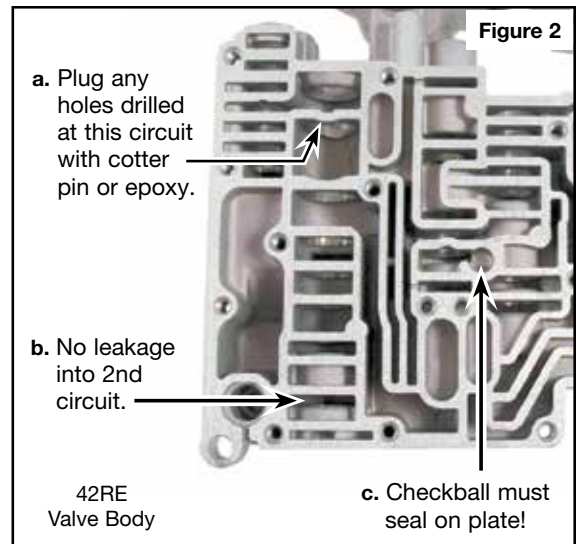

Figure 2
(Figure 2)
- Remove OE end plate on the opposite side of the bore, then the OE line pressure plug and sleeve, throttle pressure plug and spring (**Figure 2**). Discard throttle pressure plug and retain other components for reuse.